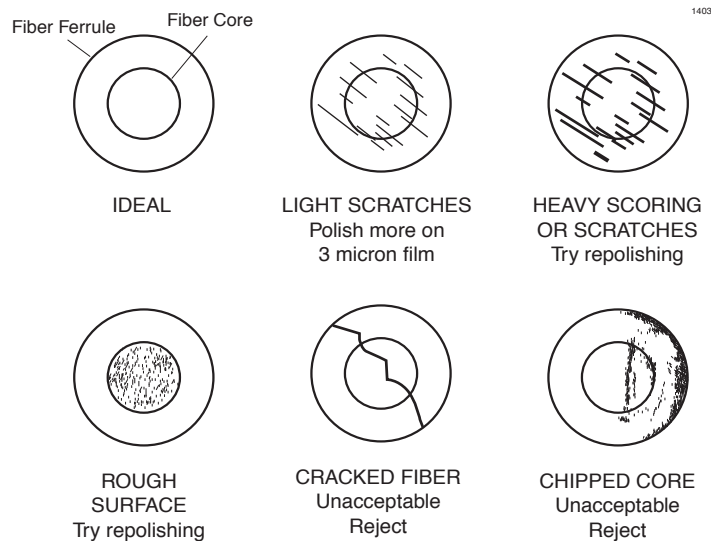

Figure 18. Defects found in fiber ends after polishing.
21. Visually compare the end of the fiber to the diagram in Figure 18. You should see a rough surface similar to the one in the diagram. These defects reduce the transmission of light into the fiber (insertion loss) and out of the fiber (reflection loss). These defects can be greatly reduced, if not completely eliminated, by polishing the fiber.